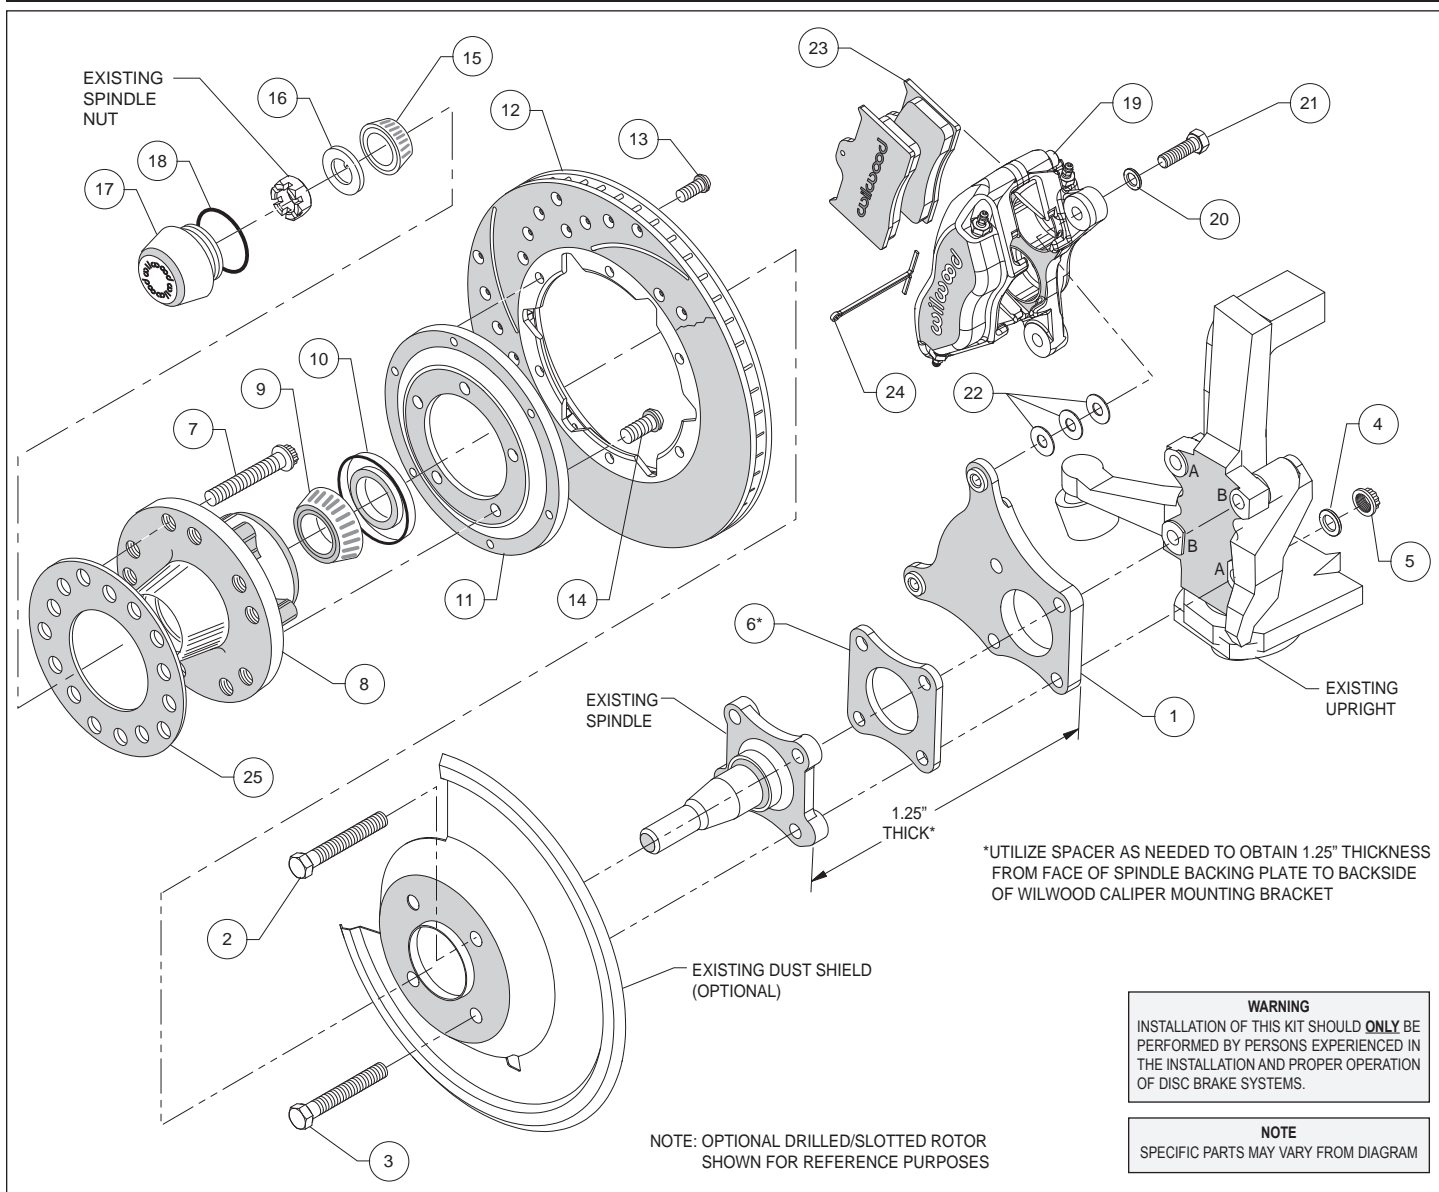
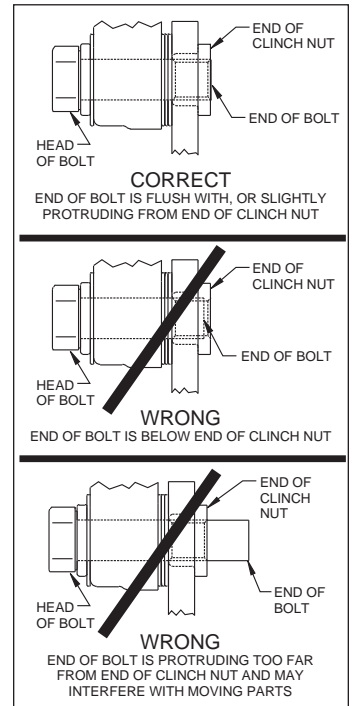

Figure 1. Typical Installation Configuration
Figure 3. Clinch Nut Engagement Diagram
**Assembly Instructions** (numbers in parenthesis refer to the parts list, on the preceding page and Figure 1): **CAUTION:** *All mounting bolts must fully engage clinch nuts.* Be sure to check that all bolts are either flush or protruding through flanged side of clinch nut after shimming, Figure 3.
- Align caliper mounting bracket (1) with the corresponding holes, between the upright and the spindle. Attach using bolts (2 and 3), washers (4), and locknuts (5) as shown in Figure 1 and Photo 1. Bolt (2) goes into holes on the upright designed with a "B" and bolt (3) goes into the "A" marked holes, Figure 1. Measure the thickness of the spindle and mounting bracket, Figure 1. If approximately 1.00", place spacer (6) between the spindle and mounting bracket to achieve the correct thickness. Temporarily tighten the mounting bolts. Ensure that the flanged heads of the clinch nuts in the bracket are facing outboard, Photo 1. **NOTE:** *The bracket must fit squarely against the mounting bosses on the upright.* Inspect for interference from casting irregularities, machining ridges, burrs, etc. Remove bolts one at a time, apply red *Loctite*® 271 to threads and torque to 47 ft-lbs.
- Install wheel studs (7) into the hub (8), Photo 2. Torque to 77 ft-lb. **NOTE:** *There are two five lug patterns in the hub (5 x 4.50 and 5 x 4.75).* Ensure the correct hub stud pattern is being used to fit the wheel application.
- Pack the large inner bearing cone (9) with high temperature disc brake bearing grease (available from your local auto parts store) and install into the backside of the hub (8), Photo 3.
- Install the grease seal (10) by pressing into the backside of the hub (8), flush with the end of the hub, Photo 3.
- Orient the rotor (12) and the rotor adapter (11) as shown in Figure 1 and Photo 4. Attach the rotor to the adapter using bolts (13). Using an alternating sequence, apply red *Loctite*® 271 to the threads, and torque to 25 ft-lb.
- Mount the adapter/rotor assembly (11/12) to the hub (8) using bolts (14), as shown in Figure 1 and Photo 5. Using an alternating sequence, apply red *Loctite*® 271 to the threads, and torque to 55 ft-lb.
- Pack the small outer bearing cone (15) with high temperature disc brake bearing grease and install into hub (8). Slide the hub/rotor assembly onto the spindle. Secure using spindle washer (16) and OEM spindle nut, Photo 6. Adjust bearings per OEM specifications. Install saved OEM nut lock (if any) and a new cotter pin (not supplied).
- Screw dust cap (17) into hub (8), Photo 7. Friction created by the o-ring (18) on the dust cap keeps it from unscrewing. **NOTE:** The O.D. of the existing OEM spindle washer may be larger than the I.D. of the dust cap not allowing it to seat against the hub face. Therefore, use the spindle washer (16) supplied with the kit instead of the OEM washer.
- NOTE:** Please reference the caution statement at the beginning of the assembly instructions. Mount the caliper (19) onto the caliper mounting bracket (1) using bolts (21) and washers (20), as shown in Figure 1. Initially place three .035" thick shims (22) on each bolt between the caliper and the bracket, Photo 8. Temporarily tighten the mounting bolts and view the rotor (12) through the top opening of the caliper. The rotor should be centered in the caliper, Photo 9. If not, adjust by adding or subtracting shims between the bracket and the caliper. Always use the same amount of shims on each of the two mounting bolts. **NOTE:** The end of each bolt must be flush with or slightly protruding from the head of the clinch nut, as shown in Figure 3. If necessary place spare shims between washer (20) and caliper mounting ear to achieve the proper clinch nut engagement. Once the caliper alignment and clinch nut engagement are correct, remove the bolts one at a time, apply red *Loctite*® 271 to bolt threads, and torque to 40 ft-lb.
- Install the disc brake pads (23) into the caliper, with the friction material facing the rotor (12), and secure in place using cotter pin (24), Photo 10.
- Temporarily install wheel and torque lug nuts to manufacturer's specification. Ensure that the wheel rotates freely without any interference. **NOTE:** Wheel spacer (25) **MUST** be used if any wheel contact surfaces overhang the outside diameter of the hub face. See warning on page 3.